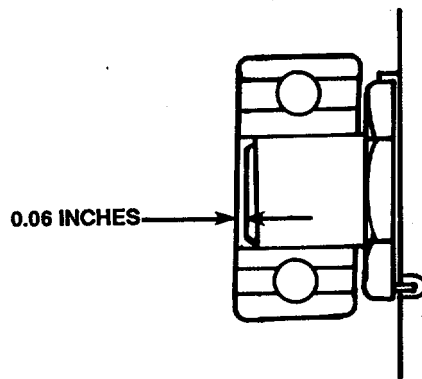

FIGURE 4-24. Pilot Bearing (PTO/SL-111).
- aa Press the pilot bearing (1) on the clutch shaft (34). Solidly support the output end of the clutch shaft (34) during installation of the pilot bearing (1). Also, apply the force to the inner race of the pilot bearing (1) during installation. Don't press the pilot bearing all the way onto the shaft. Leave a distance of 0.06-inch between the front face of the bearing inner race and the end of the clutch shaft. Refer to FIGURE 4-24.